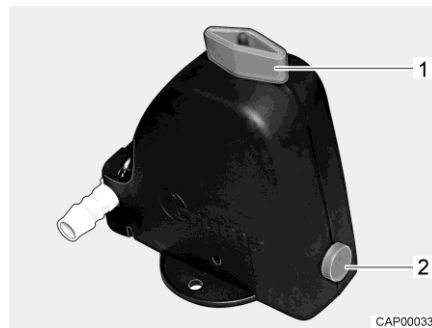
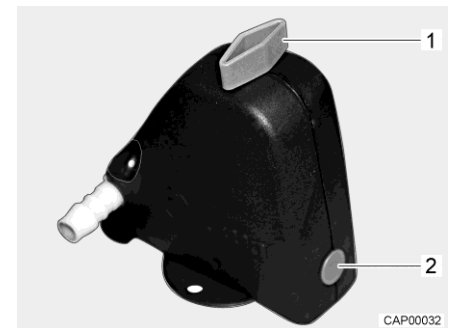

Fig. 116 Safety/drainage valve open
Fig. 117 Safety/drainage valve closed
- Close the safety/drainage valve. Turn the knob (Fig. 116,1) perpendicular to the safety/drainage valve and push the push button (Fig. 116,2) in. The closed safety/drainage valve is shown in Fig. 117. If the temperature is below 6 °C, the safety/drainage valve cannot be closed.